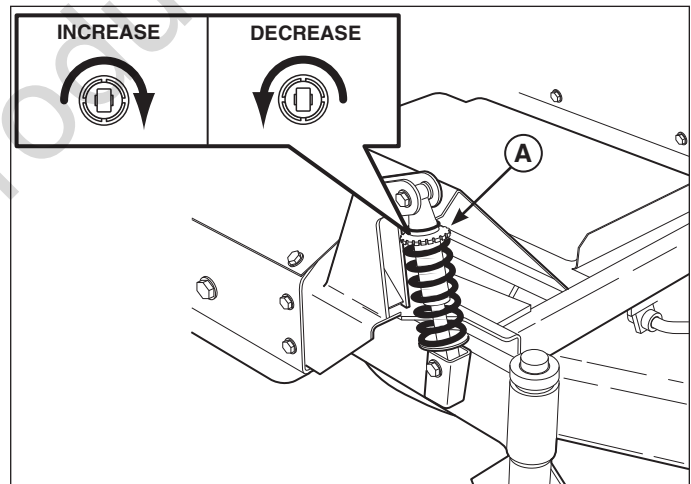

Figure 17. Front Suspension Adjustment
2. Turn the pre-load adjustment collar (**A**, Figure 17) **CLOCKWISE** to increase the pre-load, turn **COUNTERCLOCKWISE** to decrease the pre-load. Make sure both shocks are set to the same amount of pre-load.